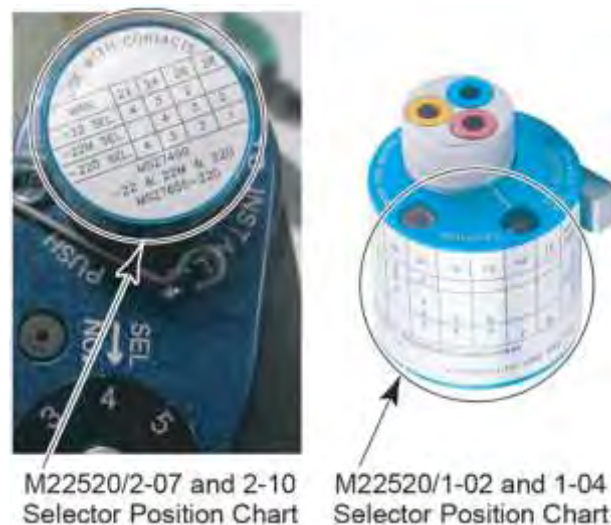

Figure 17
- (17) Set the dial of the crimp tool (Figure 17) to the proper setting for wire gage and contact as noted on the contact position locator by lifting and rotating the selector knob. Ensure that the proper locator is used. See tooling table in the beginning of this section for tool and locator.